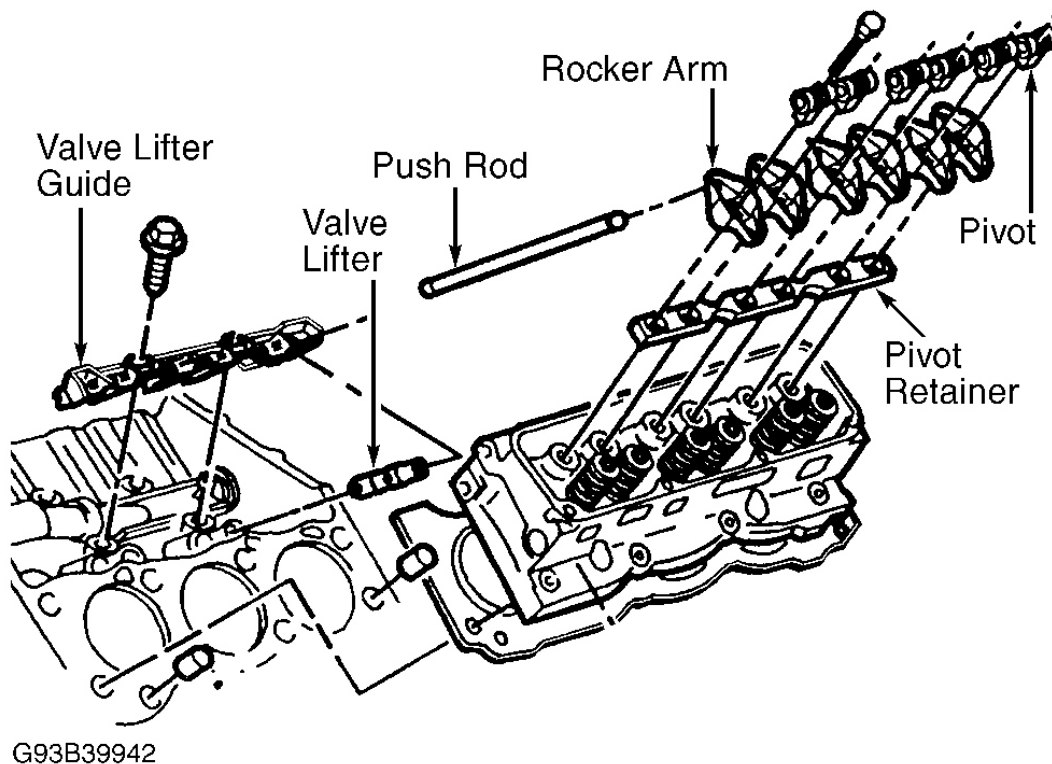

Fig. 14: Exploded View Of Rocker Arm & Components
3. On either side, remove rocker arm cover. Remove and discard rocker arm pivot bolts. Mark rocker arm component locations for reassembly reference. Remove rocker arms and components. See **Fig. 14**.
Remove upper and lower intake manifold. See **INTAKE MANIFOLD (UPPER)** and **INTAKE MANIFOLD (LOWER)**. Remove rocker arms and push rods. See **ROCKER ARMS & PUSH RODS**. Remove valve lifter guide and valve lifters. See **Fig. 14**. Mark component locations for reassembly reference.
1. Disconnect negative battery cable. Remove engine. See **ENGINE**. Remove flexplate/flywheel. Remove upper and lower intake manifolds. See **INTAKE MANIFOLD (UPPER)** and **INTAKE MANIFOLD (LOWER)**. Remove lifter guide. See **Fig. 14**.